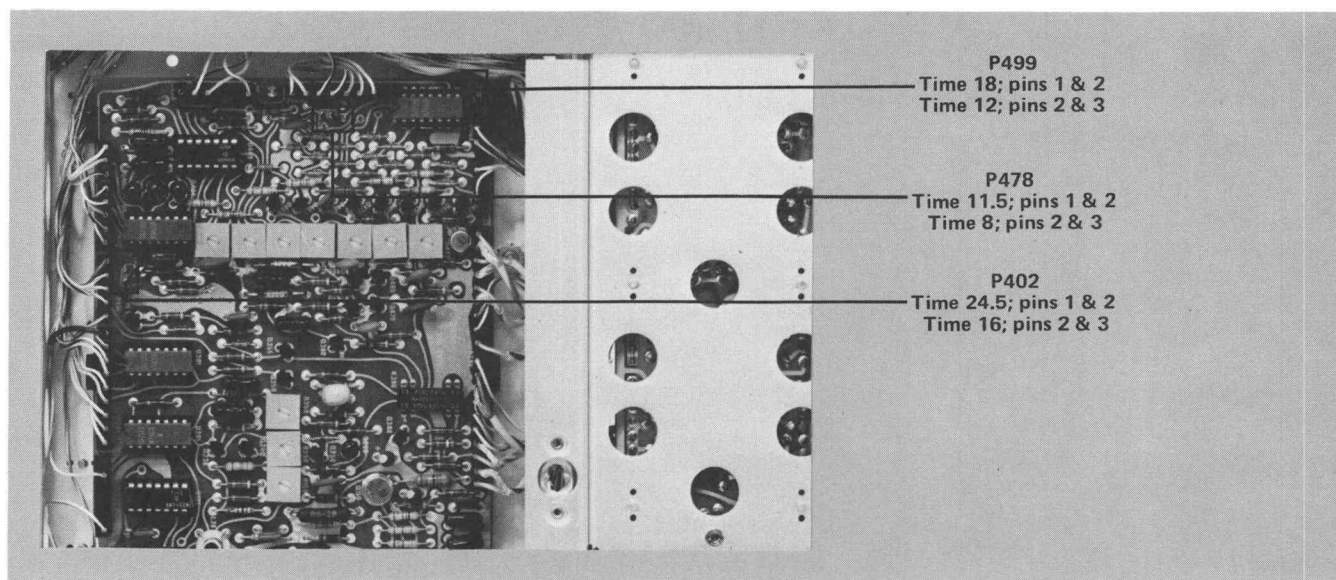

Fig. 2-17. Subcarrier and Sync Out circuit board location of selector plugs.
Proceed as follows: (1) Change the connector on pins one and two of P402, see Fig. 2-17, to pins two and three; (2) Change the connector on pins one and two of P478 to pins two and three; and (3) Change the connector on pins one and two of P499 to pins two and three.